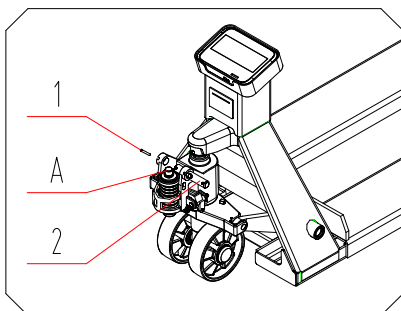

Figure 1
2.1.1 Shown as Fig.1, remove elastic pin 1 from pin shaft 2, then pull out the pin shaft 2.